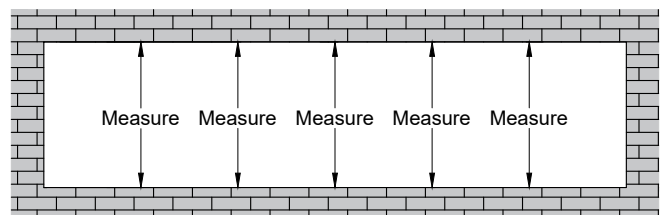

FIG. 3.
- C. Measure the height of the opening at several points along the entire width of the opening. Select the smallest of these dimensions and subtract the top and bottom caulk joint height per approved shop drawings ($\frac{1}{4}$ "(6.3mm) minimum caulk joint at sill. At head, caulk joint can be $\frac{1}{4}$ "(6.3mm) using T14055 or similar flashing. When using T14259, E14059 or E/T/TU15259 sill flashing, head caulk joint must be $\frac{3}{8}$ "(9.5mm)). **SEE Fig. 3.**